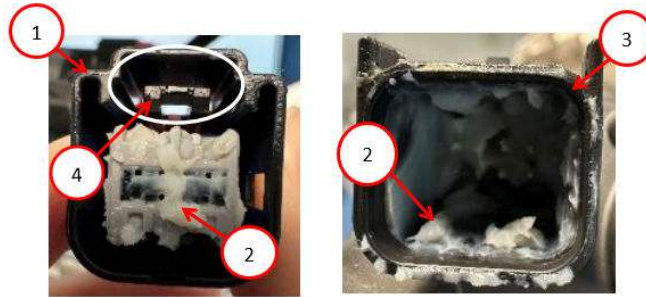

Fig. 3
10. Inspect the grease pattern on both halves of the connector to ensure that grease is present on the connector Fig. 3.
14. Is grease build up seen in the connector mating header Fig. 3?